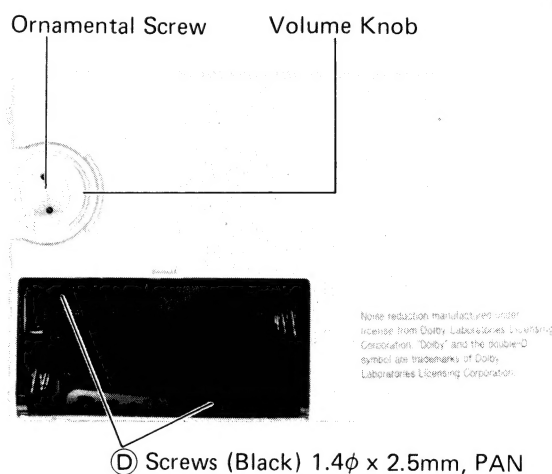

Figure 3
1. Remove two screws (D), one screw (E), one screw (F), one screw (G) and one screw (H), and then desolder the parts marked (J) and (K).
2. Remove one screw (L), and the main P.C. Board and the governor P.C. Board will be removed. (Figure 3, 4 and 5)